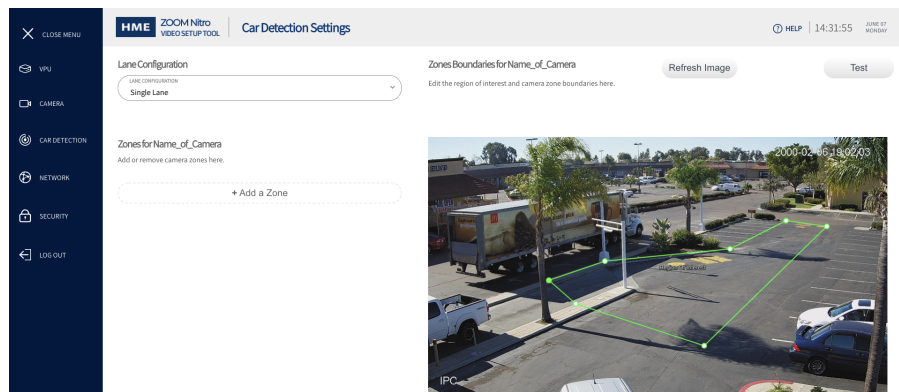

Fig. 6.3
3. Each corner has an anchor point (indicated by a dot) which can be grabbed using your cursor and moved independently to a desired location within your field of view. Use these anchor points to define the ROI, (see new boundary lines in Fig. 6.3). You can also insert additional anchor points to create more complex shapes or delete anchor points to simplify. Fig. 6.3 has three more anchor points added to create this new ROI boundary.
4. After you draw the ROI, click Save (the “+ Add a Zone” button appears), see Fig. 6.3.